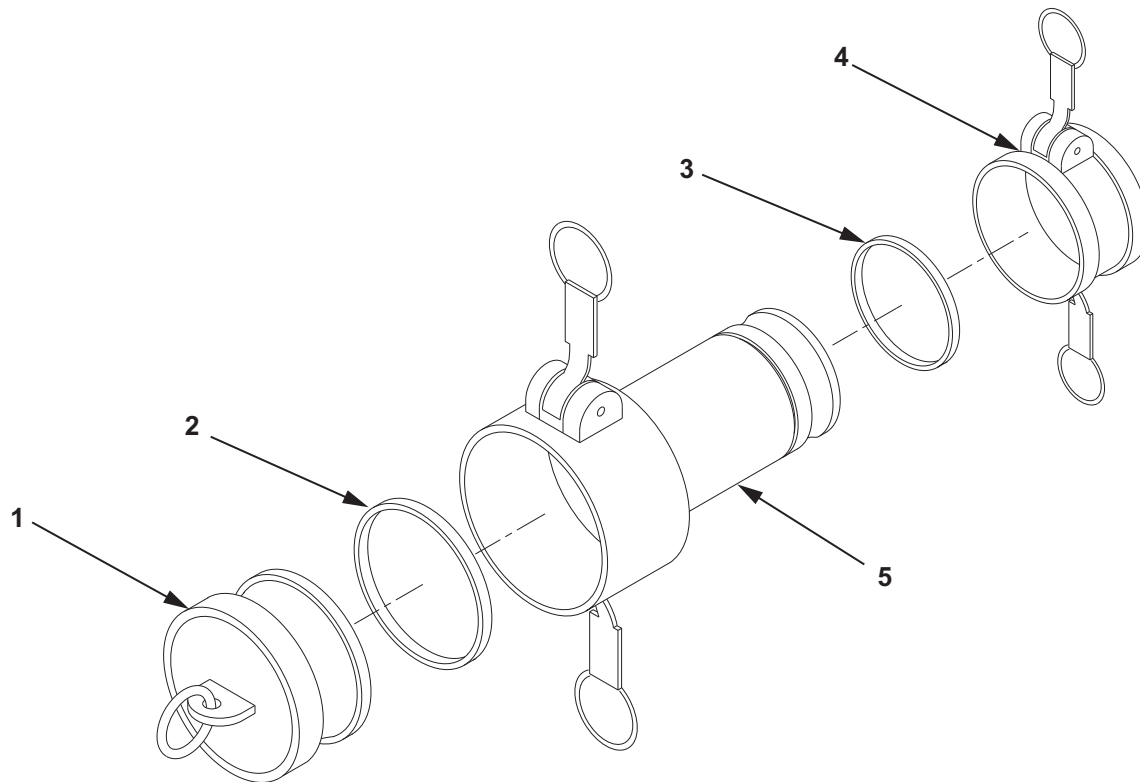

Figure 1. 2 In. Female X 1.5 In. Female Reducer Disassembly.
1. Remove 2 in. dust plug (Figure 1, Item 1) from reducer assembly (Figure 1, Item 5).
2. Remove 1.5 in. dust cap (Figure 1, Item 4) from reducer assembly (Figure 1, Item 5).
3. Remove gasket (Figure 1, Item 2) from reducer assembly (Figure 1, Item 5). Discard gasket (Figure 1, Item 2).
4. Remove gasket (Figure 1, Item 3) from 2 in. dust cap (Figure 1, Item 4). Discard gasket (Figure 1, Item 3).